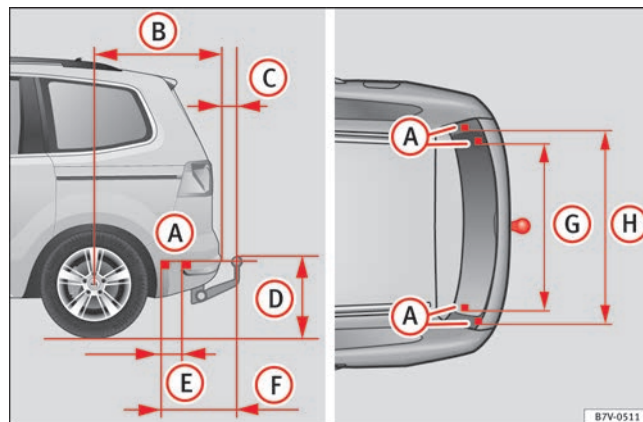

Fig. 157 Measurements and attachments to retrofit a tow hitch.
In any case, the separation distances must be observed when fitting a tow hitch. The distance between the centre of the tow hitch ball and the road surface  $\Rightarrow$  fig. 157 **D** must never be lower than that indicated. This also applies when the vehicle is fully laden, including maximum drawbar load.
**Separation distances  $\Rightarrow$  fig. 157:**